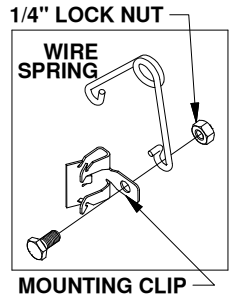

Figure C1: Leveling kit parts.
- Assemble kit.** Locate the 1/4" cap screw and nut, along with the wire torsion spring and mounting clip. Pass the 1/4" cap screw through the mounting clip and the wire spring, as shown in Figure C1. Thread the 1/4" lock nut onto the 1/4" cap screw. Tighten the lock nut just enough that the spring will stay in place but will still be able to rotate around the bolt if needed.